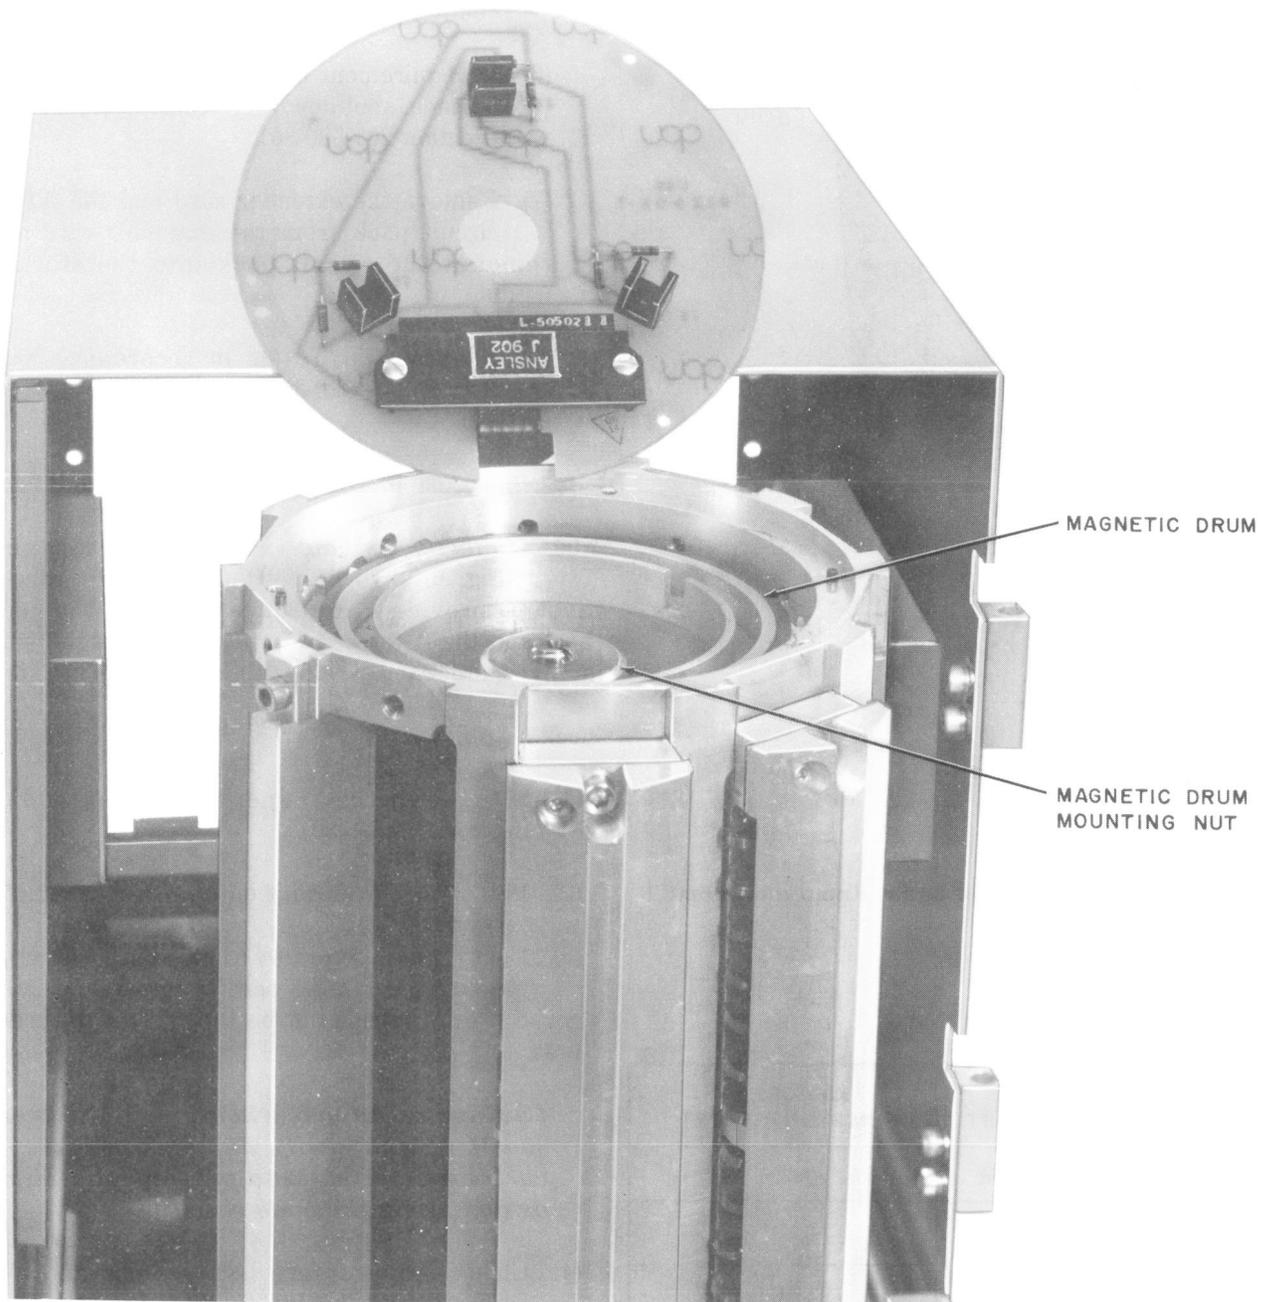

Fig. 4—Typical View of Top of Recorder Unit With Optical Switch Assembly Dismounted
2.07 Magnetic Drum: The magnetic drum (Fig. 4 and 5) shall fit readily on its mounting surface and be held securely in place by the mounting nut.